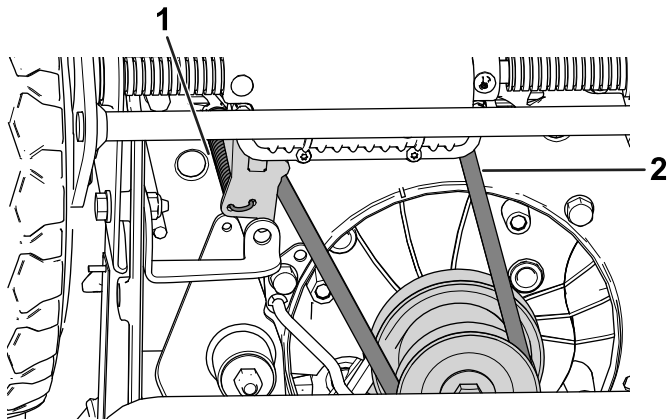

Figure 2
7. Remove the transmission belt and the transmission tension spring from the machine (Figure 2).